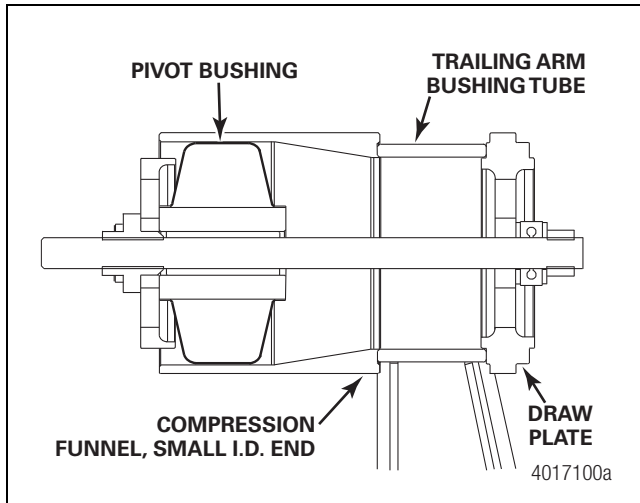

Figure 6.14
8. Thread the punch plate onto the draw bolt until it rests against the bushing inside the compression funnel. Figure 6.14.